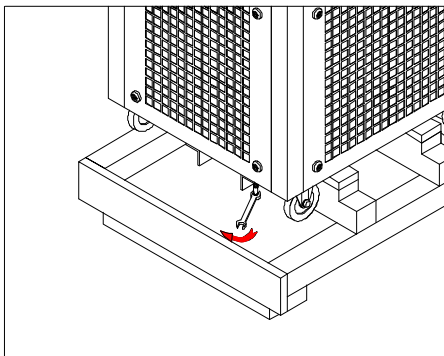

Figure 4-1
- B. Remove 4 nuts holding the freezer to the pedestal (Figure 4-1).